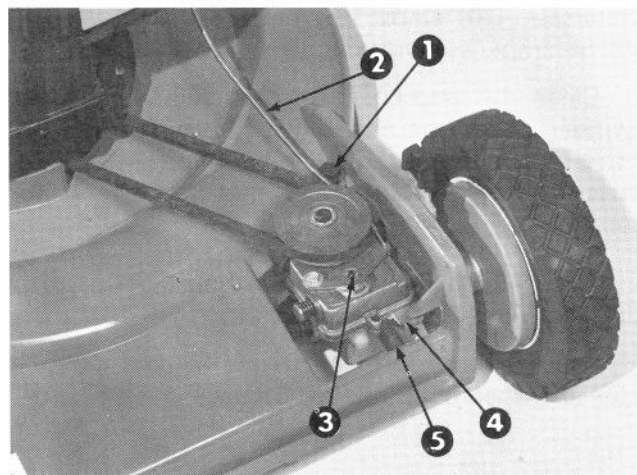

Figure 35
3. Loosen cable retaining screw until control cable is free to slide (Fig. 35).
5. Push shifter arm backward until it stops and hold shifter in place. Pull control cable and wire backward to remove all slack, and secure cable in place by tightening the cable retaining screw (Fig. 35).